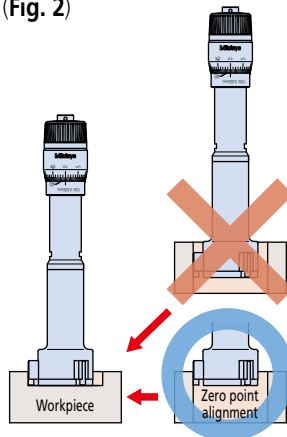

Fig. 1
4. If measuring using only the tip of the anvil, make sure to set the zero point at the same position of the tip. (Fig. 1)